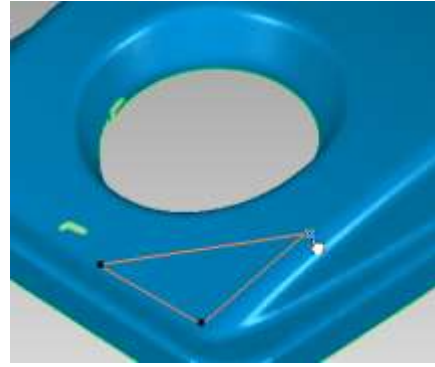

Figure 10
19. Click a set of points as shown in **Figure 10**. As you click, a boundary line will appear from click to click.